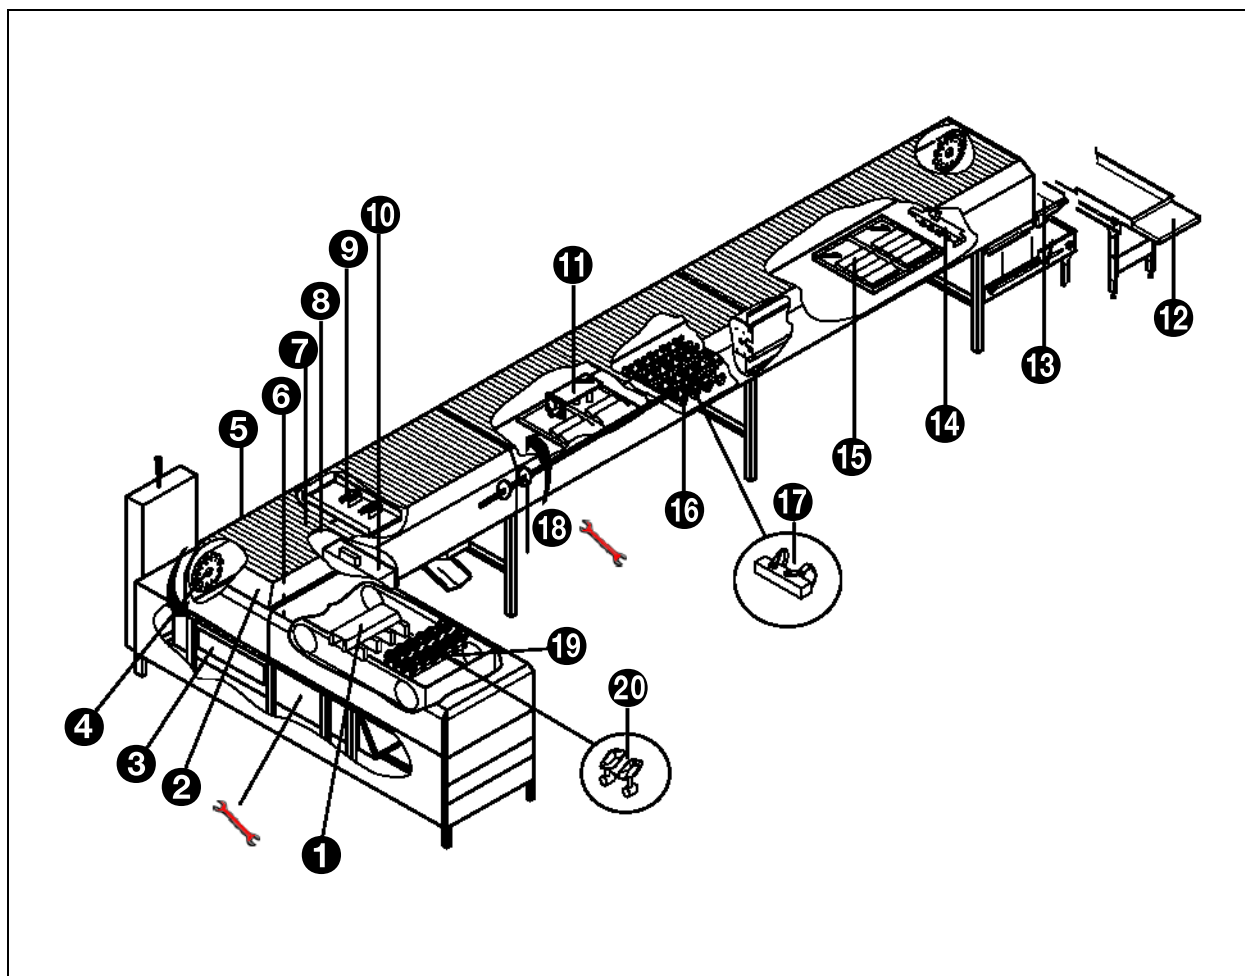

Fig. 130 - Overview of parts of machine
*The machine must be turned by hand to check a number of settings. To this end a nut is mounted on the Transfer's drive shaft. Use a 46 mm spanner (see fig. 130) to turn the machine by hand in the direction in which the eggs travel.*